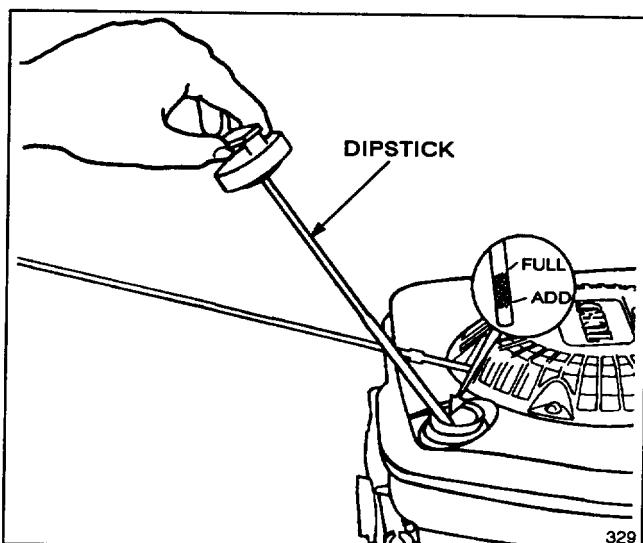

Figure 3
Before each use, ensure oil level is between FULL and ADD marks on dipstick (Fig. 3). Add oil if level is low.
3. Wipe dipstick and insert it into filler neck. Rotate cap clockwise 1/4 turn. Then remove dipstick and check level of oil on side of dipstick with FULL and ADD marks (Fig. 3). If level is low, add only enough oil to raise level to FULL mark on dipstick. **DO NOT FILL ABOVE FULL MARK BECAUSE ENGINE COULD BE DAMAGED WHEN STARTED.** POUR OIL SLOWLY.
1. Clean around fuel tank cap and remove cap from tank (Fig. 3). Using unleaded gasoline, fill fuel tank to within 1/4" to 1/2" (6 to 13 mm) from top of tank, not into filler neck. Do not fill tank full.
1. **CHECK OIL LEVEL**—Maintain oil level between ADD and FULL marks as shown on dipstick (Fig. 3).